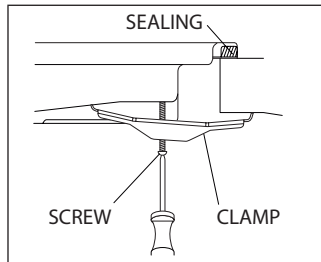

Fig. 5
8. Adjust the clamps on the bottom of the appliance so that they fit properly on the edge of the worktop (see Fig. 5) and tighten the clamps.